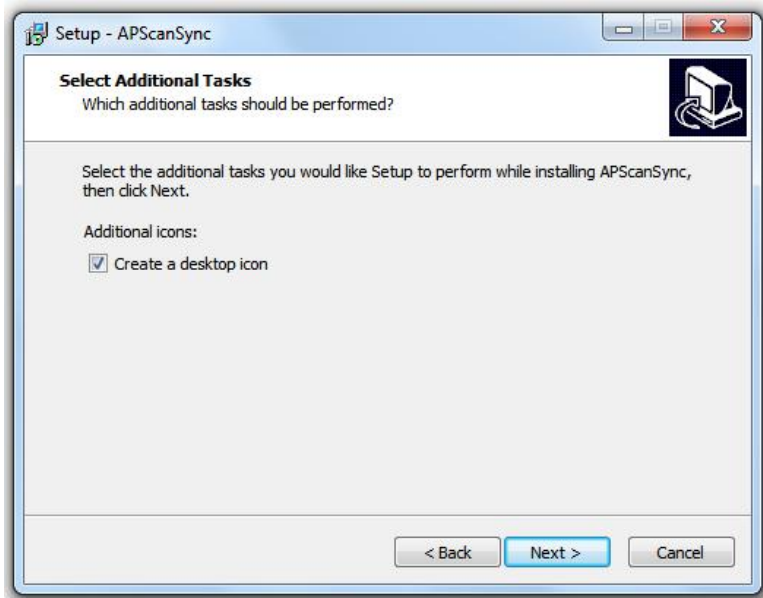

Figure 2-4
5. The dialog box to specify the creation of a desktop icon is displayed (Figure 2-4). Select to create a desktop icon or not. Then click [Next].